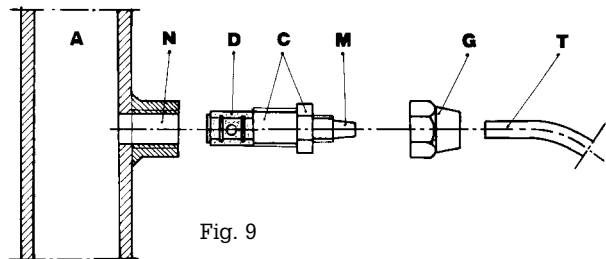

Fig. 9
- g. - Select the most appropriate injection point on a pipe of the plant to be treated and there fit a 3/8" female steel gas thread connector (similar to BSPm). This connector is not supplied with the pump. Screw the injection valve to the gas connector, inserting a gasket as shown in Fig. 9. Then connect the discharge hose to the conical connector on the injection valve and fix it with the supplied tube nut. The injection valve also acts as no return valve by means of a cylinder sleeve (elastomer, standard supplied in Viton).
3.1 - INJECTION VALVE INSTALLATION DIAGRAM (Fig. 9)